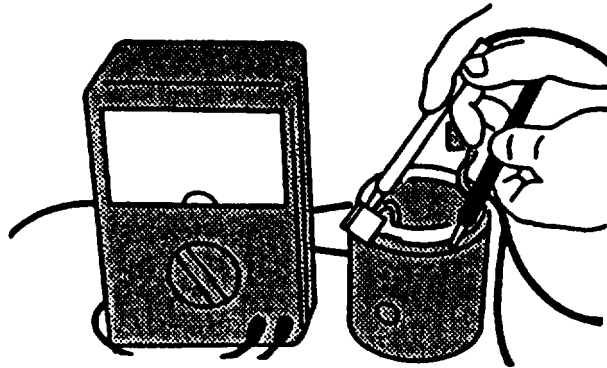

FIGURE 3-22. Checking Field Coils
- e. Using a multimeter, touch one probe to field winding end of brush and other one to bare surface of yoke body, refer to FIGURE 3-22. There should be no continuity. If there is continuity, field windings are grounded. Replace the yoke assembly.